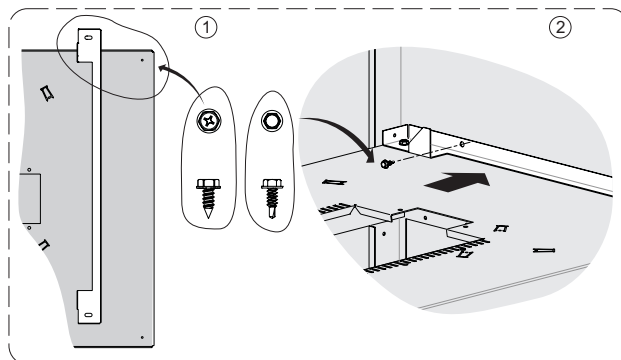

Figure 61
4. Screw the brick bracket to the false floor (but do not tighten) with the screws shown on the left side of **Figure 61** (Vent / Pilot side liner only).
5. Use the self-drilling screws shown on the right side of **Figure 61** to attach the brick bracket to the firebox wall.